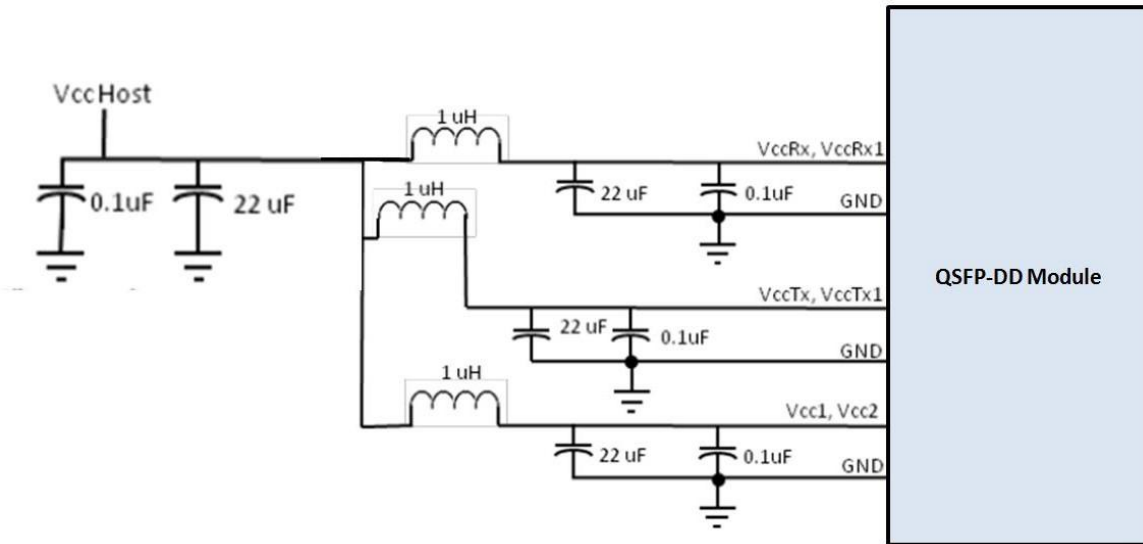

Figure 3. Recommended Power Supply Filter
2. VccRx, Vcc1 and VccTx are the receiving and transmission power suppliers and shall be applied concurrently. Recommended host board power supply filtering is shown in Figure 3 below. Vcc Rx, Vcc1 and Vcc Tx may be internally connected within the QSFP-DD transceiver module in any combination. The connector pins are each rated for a maximum current of 1000mA.